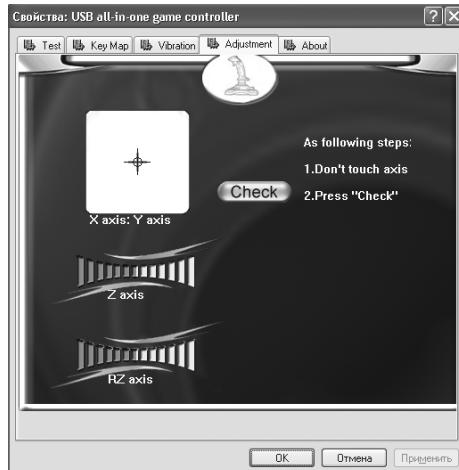

Fig. 8
- D-pad calibration. If the indicating cursor of each axis does not return to the central position or does not fix in all the four sides during tests, please click Adjustment menu (Fig. 8) for calibration: Check → Next → Check → Next → Save.